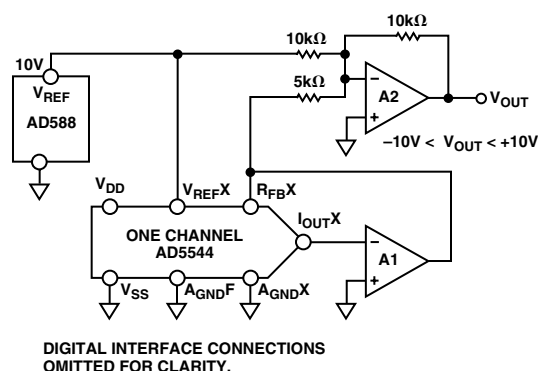

Figure 11. Four-Quadrant Multiplying Application Circuit
In some applications it may be necessary to generate the full 4-quadrant multiplying capability or a bipolar output swing. This is easily accomplished using an additional external amplifier (A2) configured as a summing amplifier (see Figure 11). In this circuit the first and second amplifiers (A1 and A2) provide a total gain-of-2 which increases the output voltage span to 20 V. Biasing the external amplifier with a 10 V offset from the reference voltage results in a full 4-quadrant multiplying circuit. The transfer equation of this circuit shows that both negative and positive output voltages are created as the input data (D) is incremented from code zero ($V_{OUT} = -10$ V) to midscale ($V_{OUT} = 0$ V) to full-scale ($V_{OUT} = 10$ V).